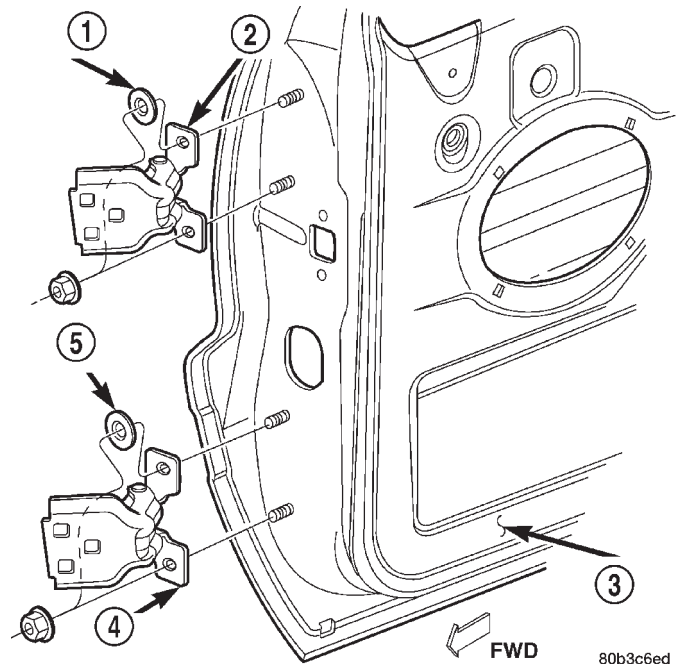

Fig. 8 Front Door Hinges
- (5) Remove the fasteners retaining the door hinge to the door (Fig. 8).
- (6) Remove the door.
- (7) Remove the hinge from the "A" pillar.